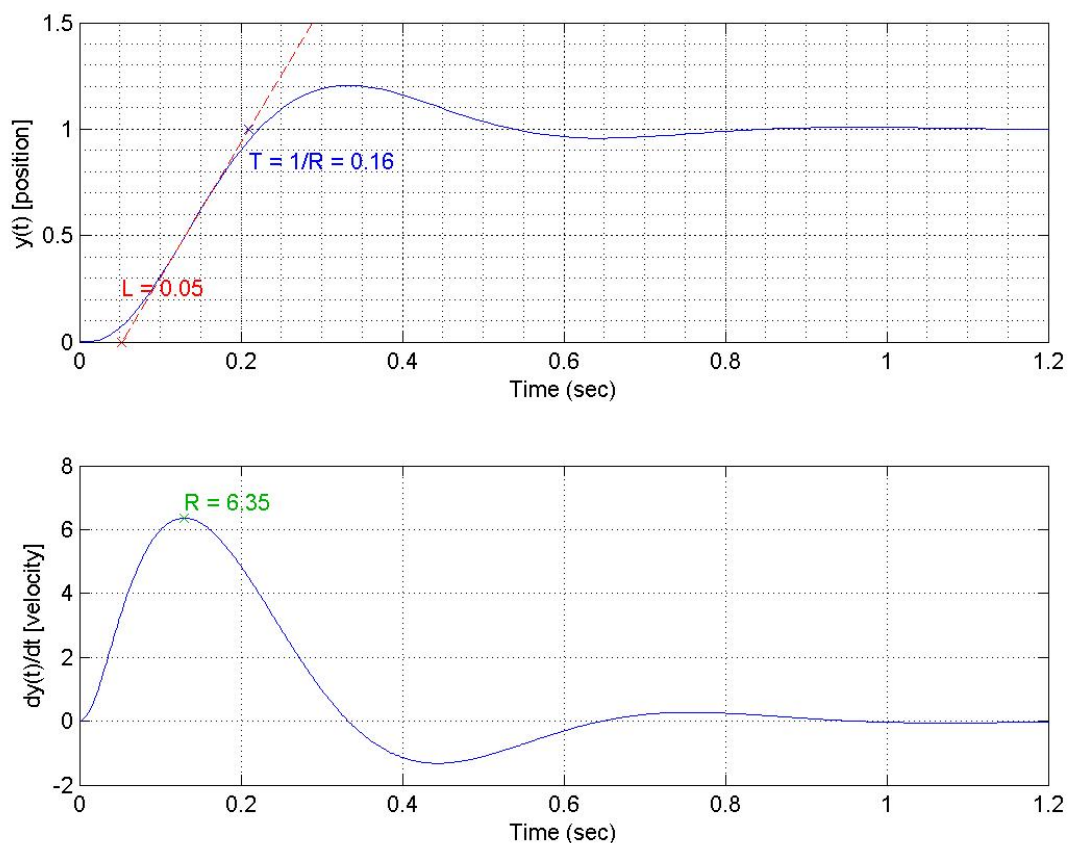

Figure 2a – Open-loop system step response. Position (top) and velocity (bottom) are both shown.
Ziegler-Nichols first method. This method simply requires estimating two values from a unit step response for the open-loop system. To do so, we first draw a tangent line at the inflection point in the S-shaped unit step response for the open-loop system, as shown by the dashed line in Figure 2a. Note that the inflection point is the location with the peak slope (i.e., highest velocity).
Next, estimate the following time parameters: 1) The location, “ L ”, in which a tangent line drawn at the inflection point intersects the time axis. 2) The time between the intersection of the tangent line with $y=0$ and with $y=1$, which we will call “ T ”. Note also that $T=1/R$ (with units adjusted appropriately), where R is the peak velocity (i.e., the velocity at the inflection point). Once L and T have been estimated (this has been done for you in Figure 2a...), the suggested gains for the PID controller are then:
a) For part a, L and T are clearly labeled in Figure 2a. For simulation purposes, assume that the open loop plant for Figure 2a is given by the following transfer function: